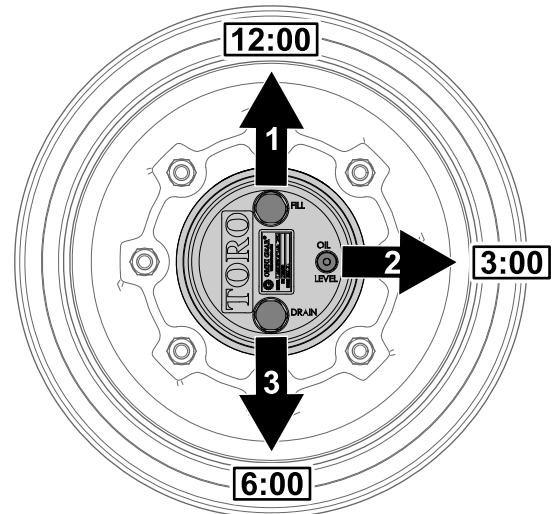

Figure 98
1. Park the machine on level surface, position the wheel so that the fill plug is at the 12 o'clock position, the check plug is at 3 o'clock position, and the drain plug is at the 6 o'clock position (Figure 98).
2. Remove the check plug at the 3 o'clock position (Figure 98).
1. Park the machine on level surface, position the wheel so that the fill plug is at the 12 o'clock position, the check plug is at 3 o'clock position, and the drain plug is at the 6 o'clock position; refer to Figure 98 in Checking the Planetary Gear-Drive Lubricant (page 65).